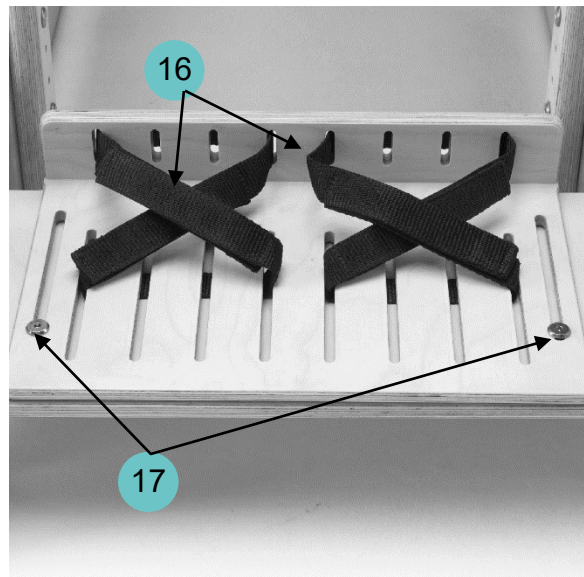

Figure 15
- The straps (Ref. 16 of Figure 15) are fastened with Velcro and can be undone by pulling apart
- The distance from the chair can also be altered by loosening the two bolts on either side of the footplate (Ref. 17 of Figure 15) with a 4mm hex key.